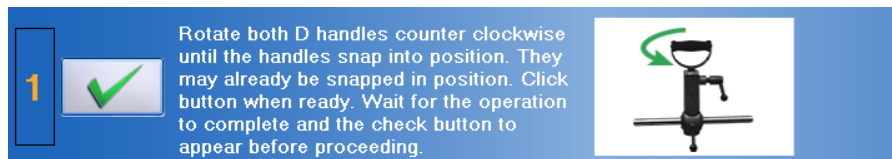

Figure 10-29. UTM - Set the Initial Handle Rotation
Step 3. Click on  to set the initial angle (Figure 10-29).